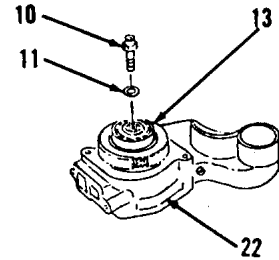
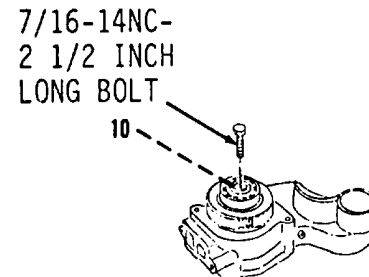

Figure 3-184.
Figure 3-185.
8. Invert housing (22, Figure 3-184).
9. Using a strap wrench, secure gear (13) and remove bolt (10) and washer (11).
10. Install 7/16-14NC-2 1/2 inch long bolt in bolt (10, Figure 3-185) hole.